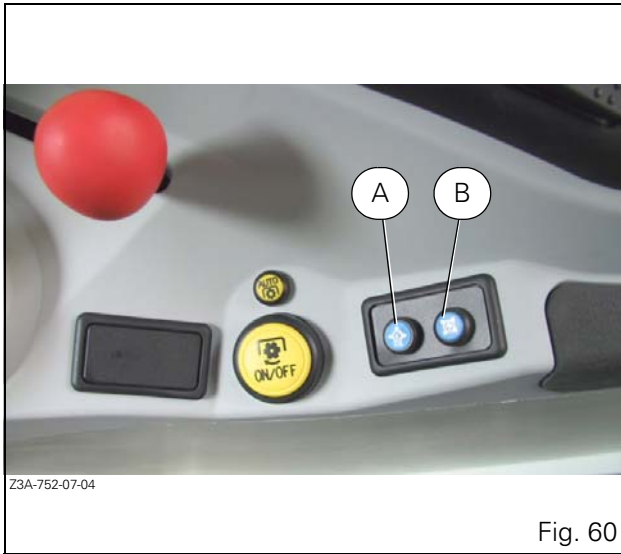

Fig. 60
3. Flow rate memorisation or memorised flow rate reset (B Fig. 60).
## 4. Hydraulic valve control ON/OFF control (A Fig. 60).
- To cancel the values, press button (B Fig. 60) for approximately 5 seconds (default value 100%).